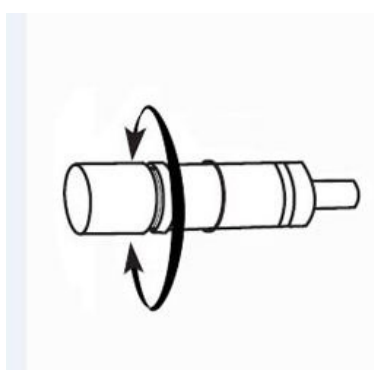

Fig.21
1. These fixed magnification scopes mounted on the optical tube are very useful accessories. When they are correctly aligned with the telescope, objects can be quickly located and brought to the center of the field. Alignment is best done outdoors in day light when it's easier to locate objects. If it is necessary to refocus your finderscope, sight on an object that is at least 500 meters (or yards) away. For the 6x30 finderscope: loosen the locking ring by unscrewing it back towards the bracket. The front lens holder can now be turned in and out to focus. When focus is reached, lock it in position with the locking ring (Fig.21).